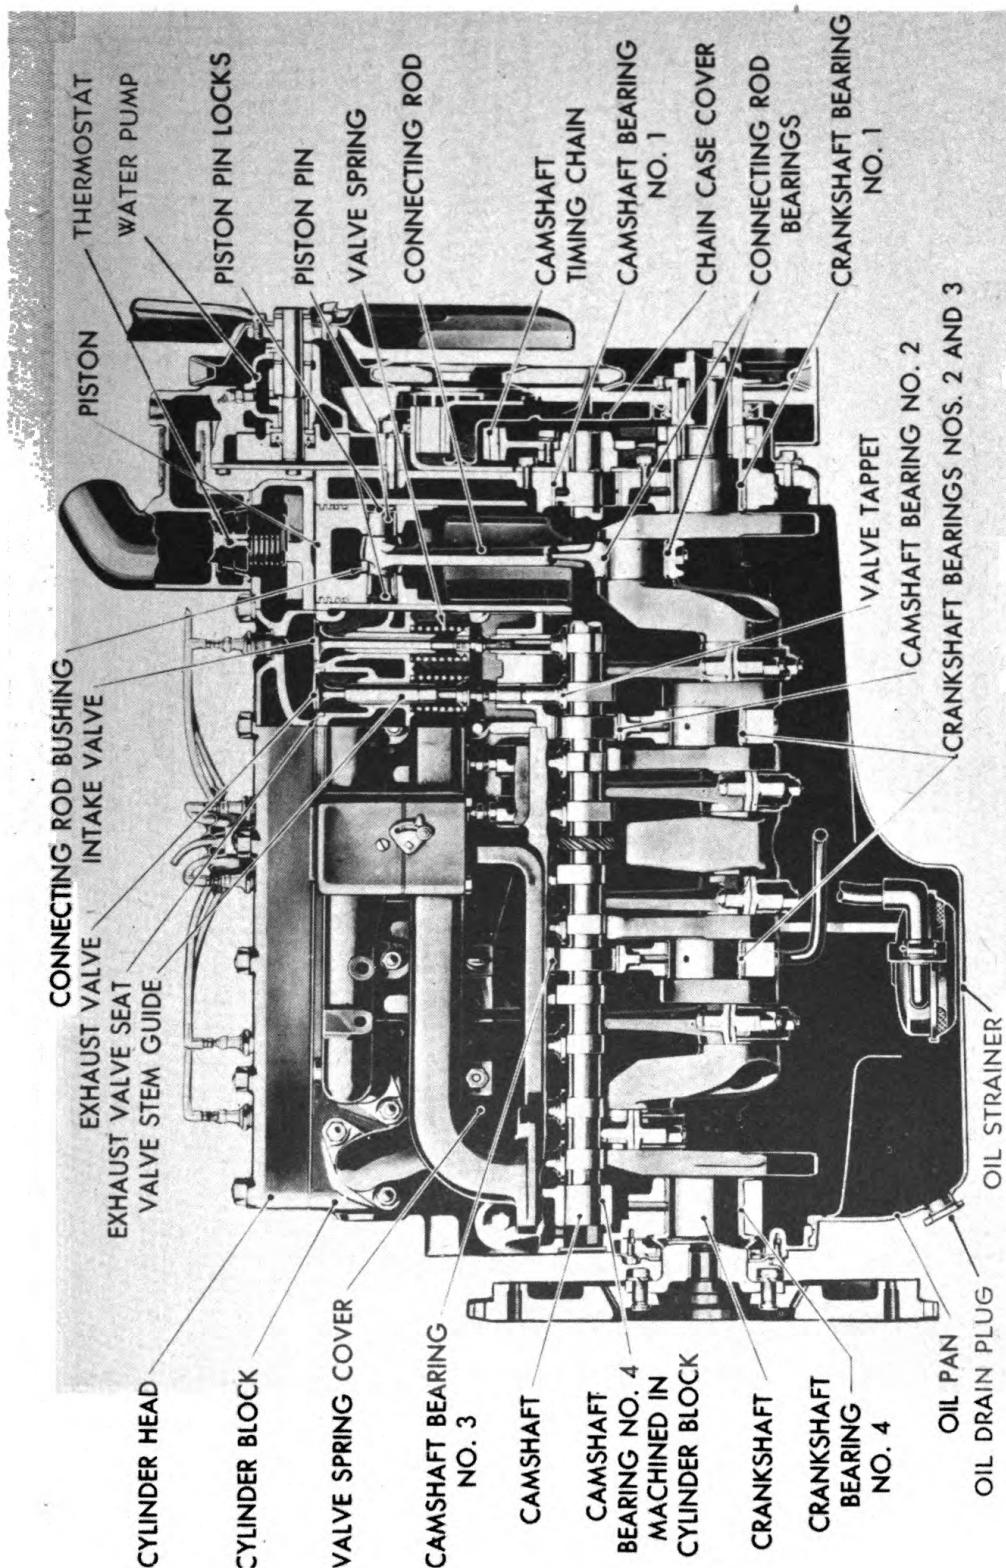

Figure 64—Side Sectional View Showing Functional Elements
- c. The Chrysler T-108-503 engine is of the poppet valve gasoline burning type with liquid cooling and pressure lubrication. (Figure 64.)